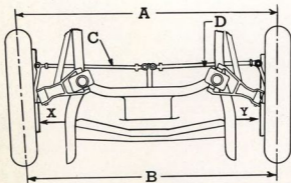

Fig. 28—Toe-in is Correct when Distance "B" is $\frac{1}{32}$ " to $\frac{1}{8}$ " Shorter than "A"
1. Inflate all tires to recommended pressure. Adjust front wheel bearings. Center the steering worm on "high spot," steering crank on center line of car and front wheels straight ahead, before measuring. The adjustable connecting rod (drag link) permits exact centering of the steering crank. Dimension "X," Fig. 28, from brake backing plate to frame at first rivet back of bumper should be same as "Y" on opposite side. If they differ more than $\frac{1}{8}$ inch, lengthen cross tube on short side until both wheels are centered.